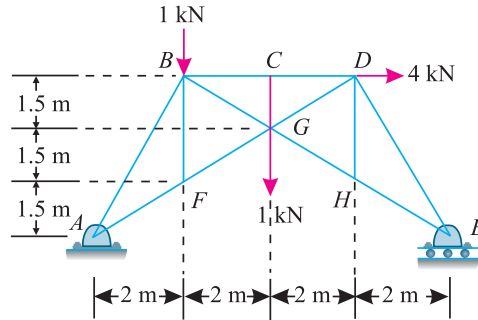

Fig. 12.29.
**Example 12.14.** Fig. 12.29 shows a pin-jointed frame carrying vertical loads of 1 kN each at the joints B and G and a horizontal load of 4 kN at D.